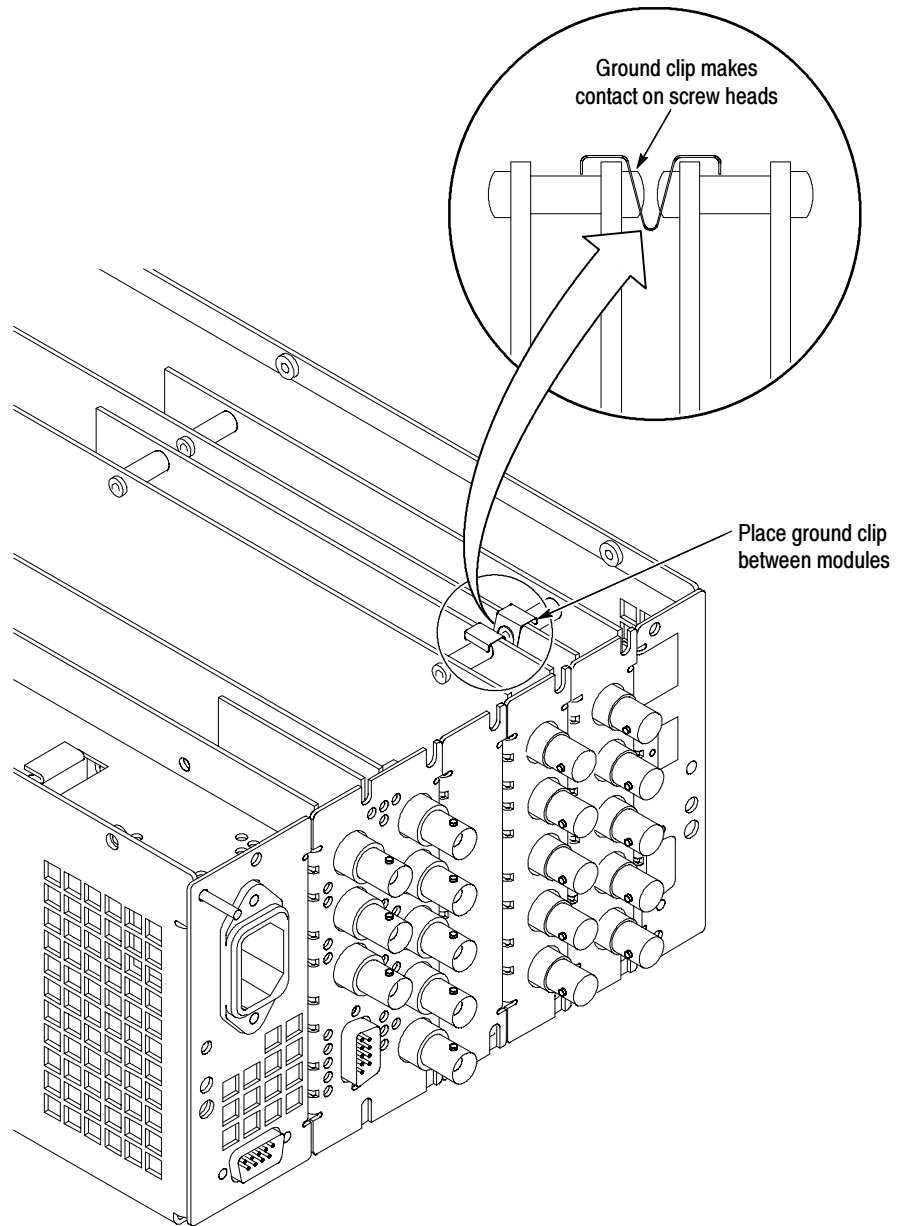

Figure 4: Installing the grounding clip between two video input modules
- g. If you are installing a second video input module, install the grounding clip that was shipped with the module (see Figure 4).
- b. If you have two video input cards with a grounding clip installed, remove the grounding clip (see Figure 4).